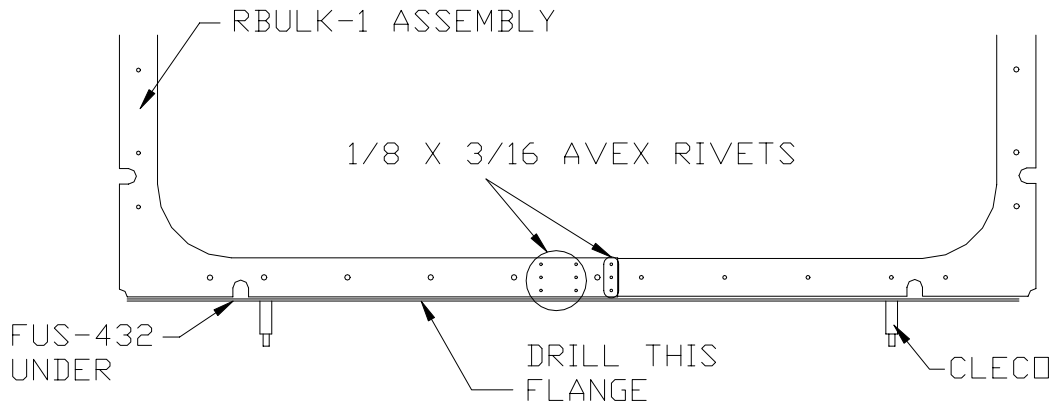

Figure 9.6.2
2) Drill and cleco the center overlap area. Drill #40 first then #30. See Figure 9.6.2 for detail.